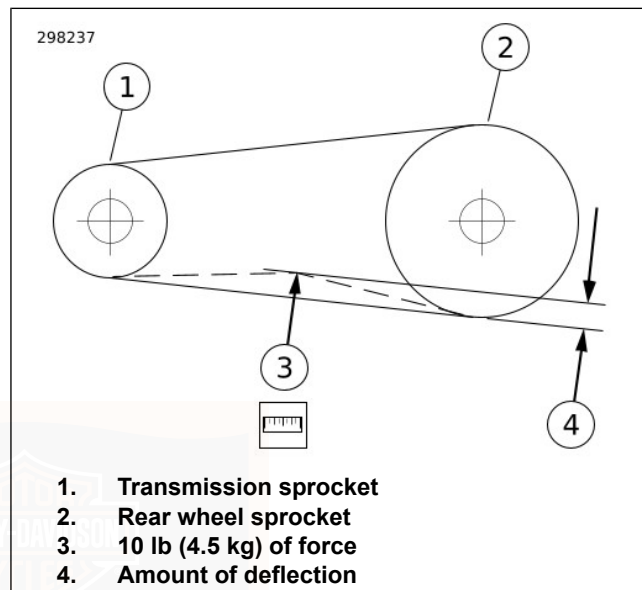

Figure 67. Checking Belt Deflection
- b. **All other models:** See Figure 67. Measure amount of deflection (4) while holding gauge steady.